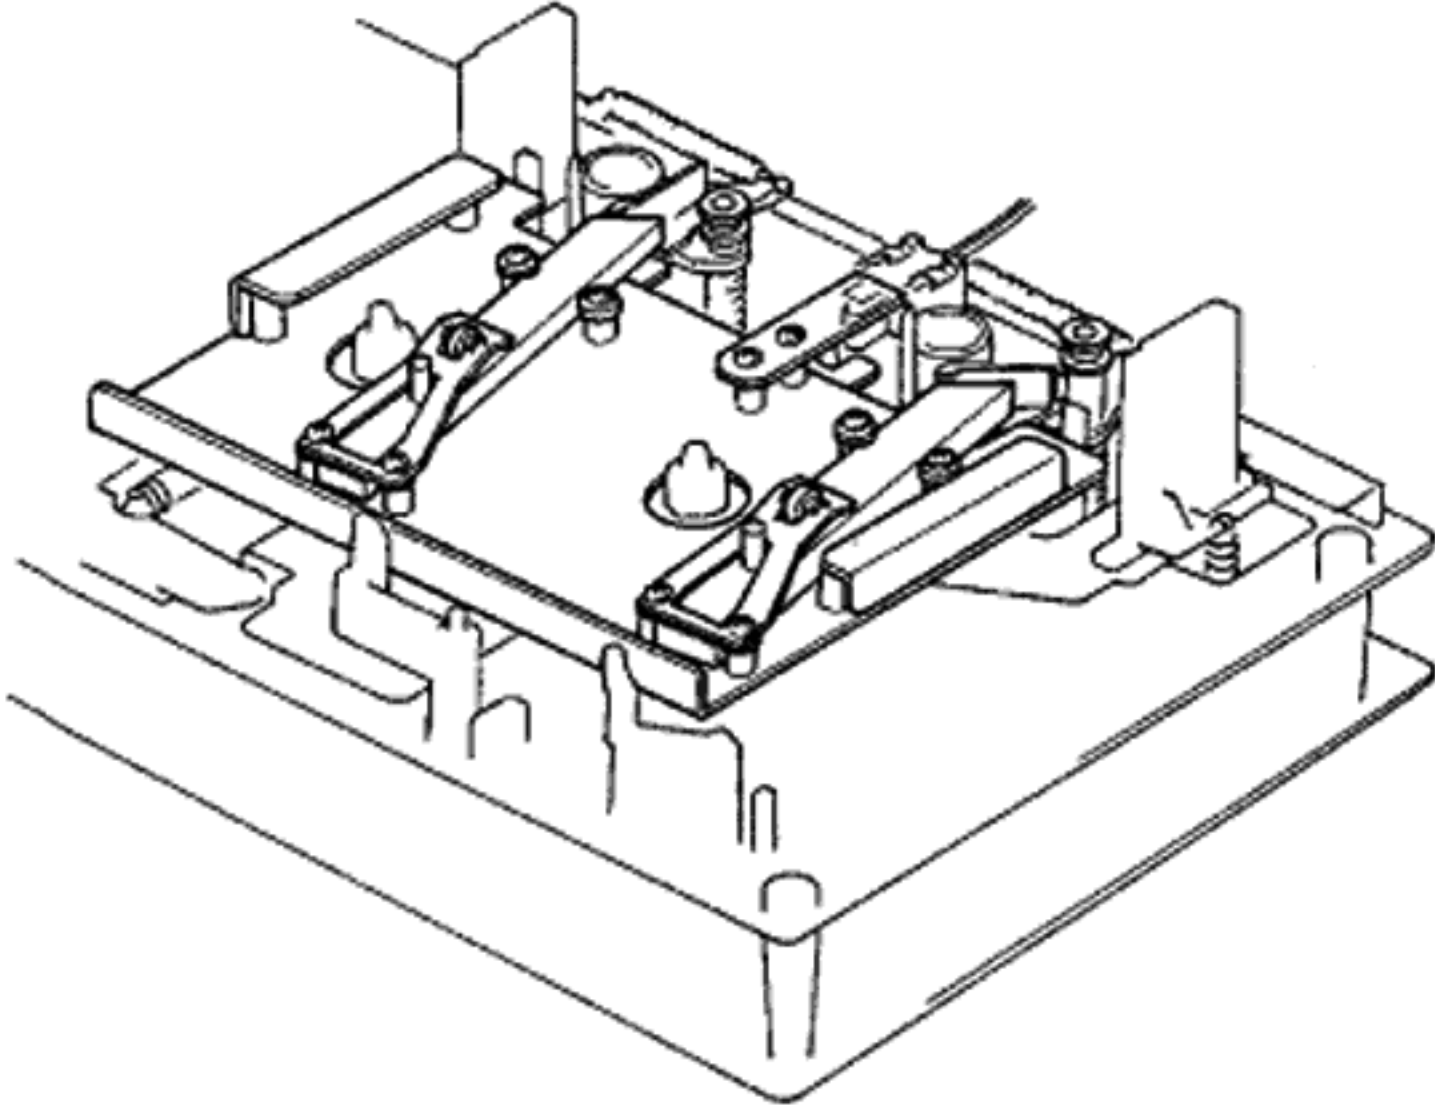

Fig. 4.9
Remove Head Mount Base Ass'y referring to item 2.24. Refer to Figs. 4.9 and 4.10.
(1) Erase Head Stroke Adjustment
(2) Supply Tape Guide Height Check
(3) Take-up Tape Guide Height Check